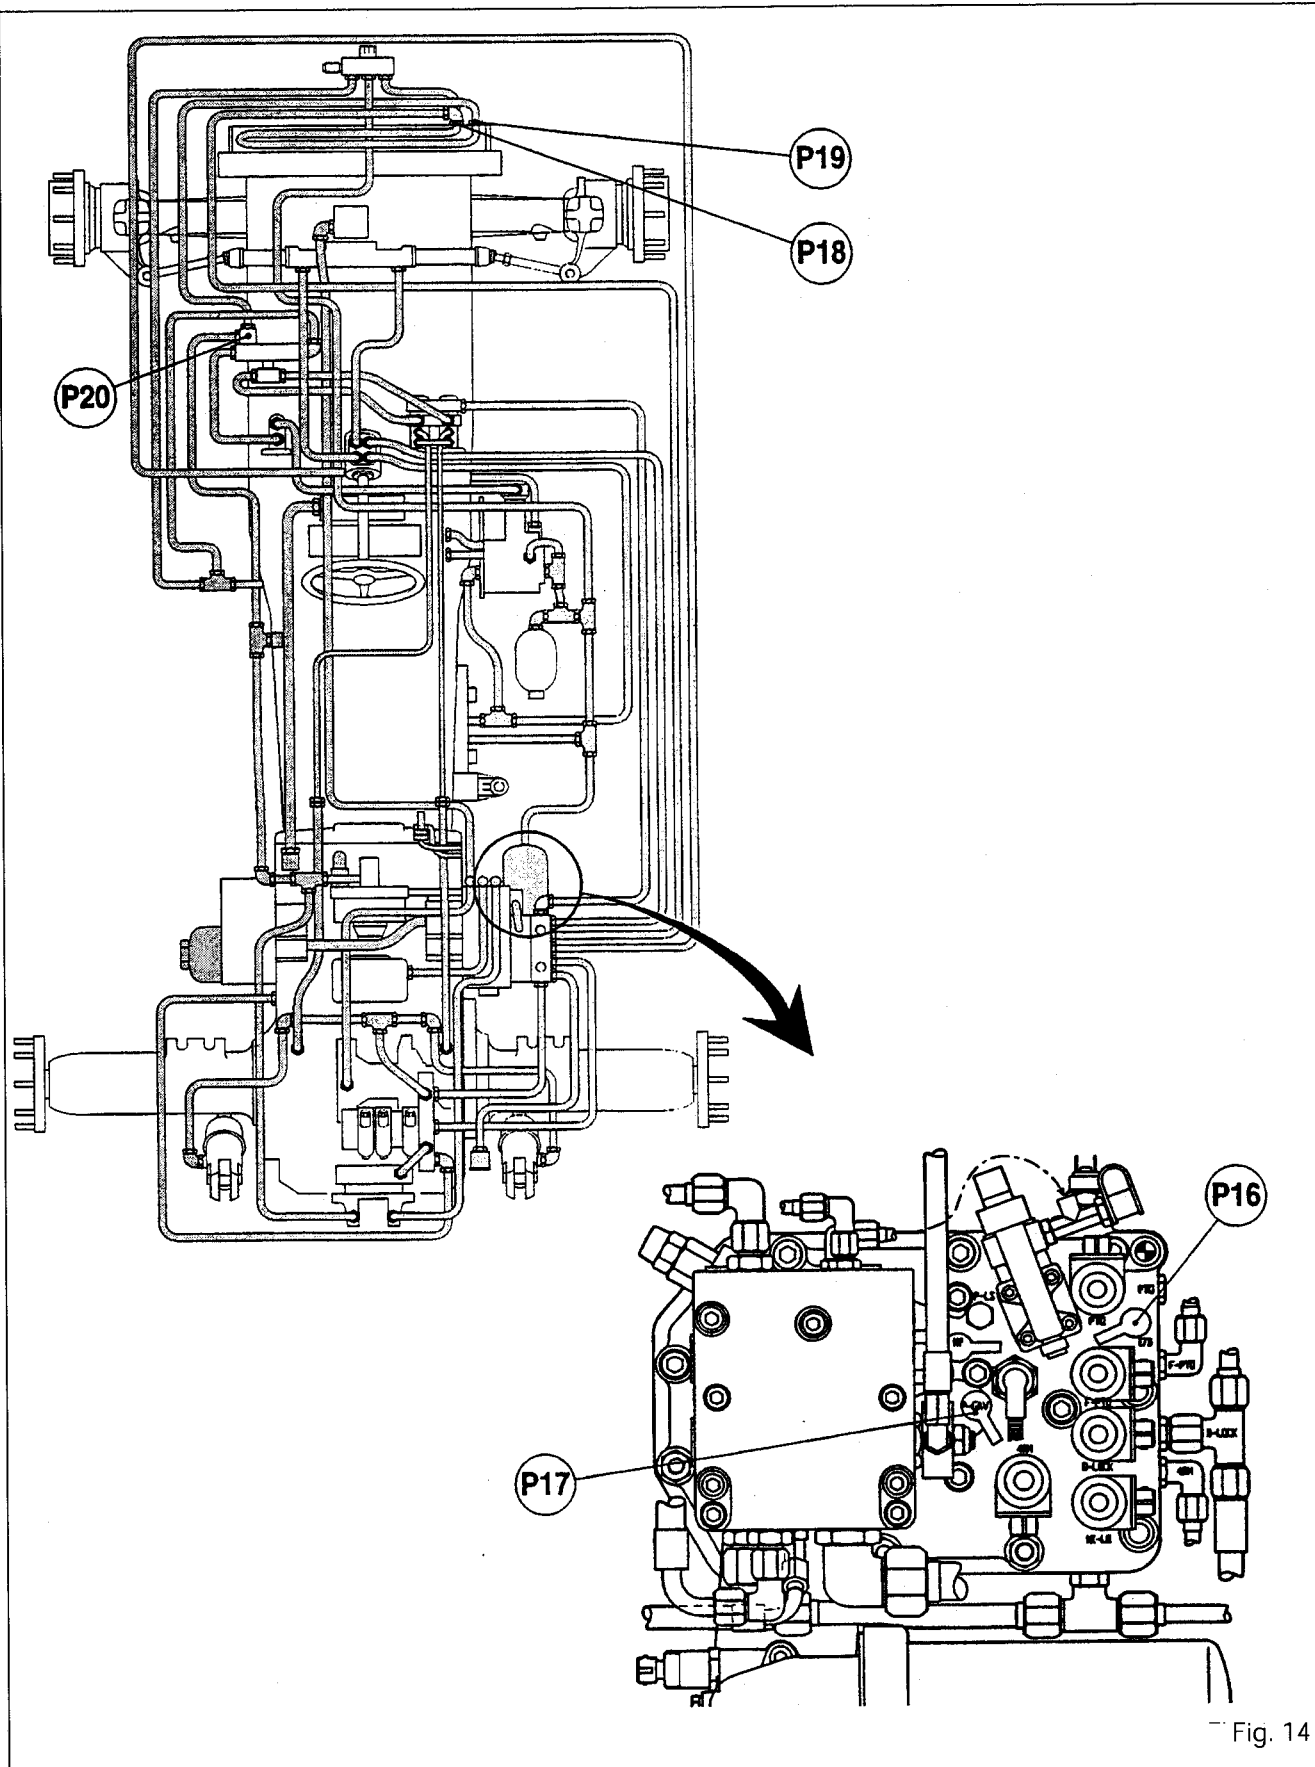

Fig. 14
- As shown in Figure 14, connect a pressure gauge to the cooler inlet to check **P18** and onto the cooler outlet to test **P19**.
Connect a pressure gauge to the connector located under the manifold to check **P20** (Fig. 14).